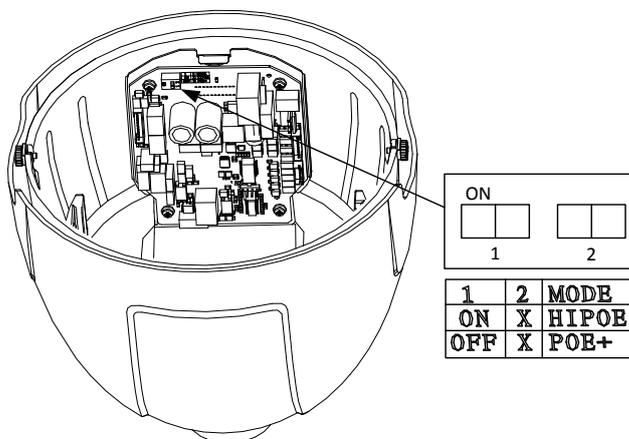

Figure 3-7 PoE+ and Hi-PoE Switch
- 2) Press switch 1 to set the status as ON which represents that the mode of Hi-PoE is selected. As shown in Figure 3-7.